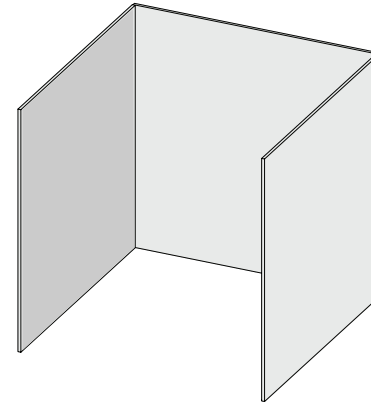

Fig. 1
- An appliance is considered to be outdoors if installed with shelter no more inclusive than with walls on three sides but with no overhead cover. (Fig. 1)